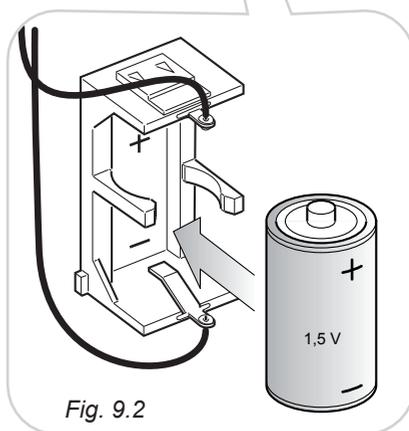

Fig. 9.2
- Check for correct polarity (fig. 9.2 and label to the side of the battery compartment).